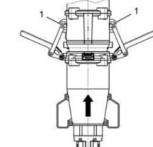

Fig.9: Hooking in the locking levers
2. Hook the locking levers of the male contact into the groove of the female contact. (Fig.9/1)